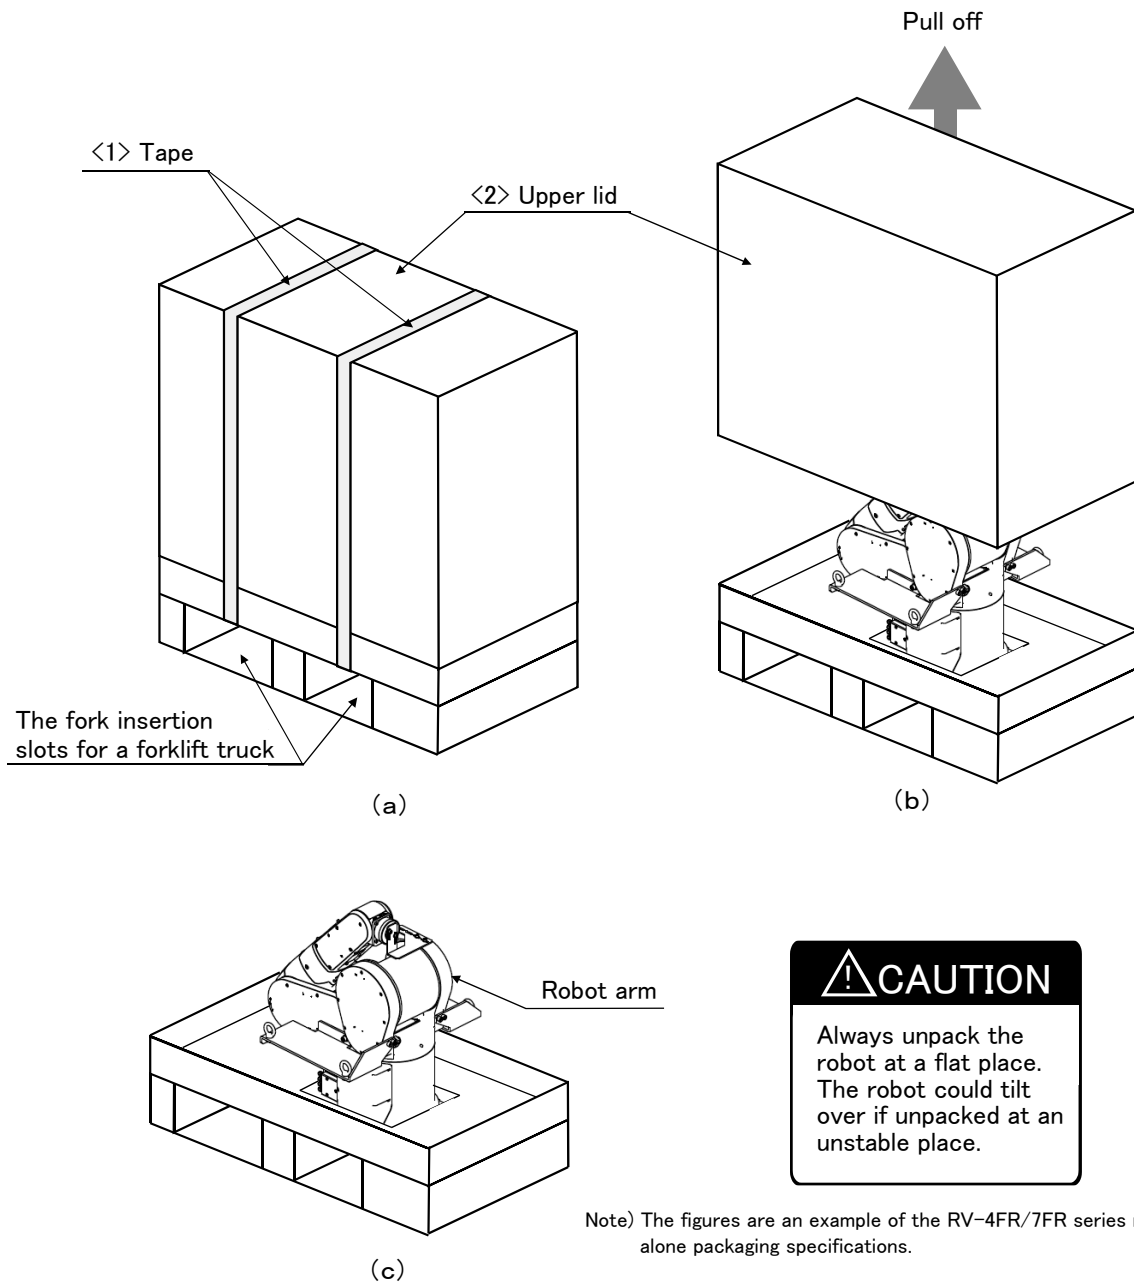

Fig.2-3 : Unpacking of the robot arm (RV-4FR/7FR series robot alone packaging specifications, RV-13FR series)
The robot is shipped from the factory in cardboard and plywood packing. Always refer to Fig. 2-3 and unpack the robot.
- 1) Using a knife, etc., slit the tape <1> fixing the upper lid <2> of the cardboard box. (Fig. 2-3 (a))
- 2) Pull the upper lid <2> of the cardboard box off with both hands. (Fig. 2-3 (b))
- 3) Remove the hexagon socket bolts <3> (four positions) connecting the sleeper and the base unit. (Fig. 2-3 (c))